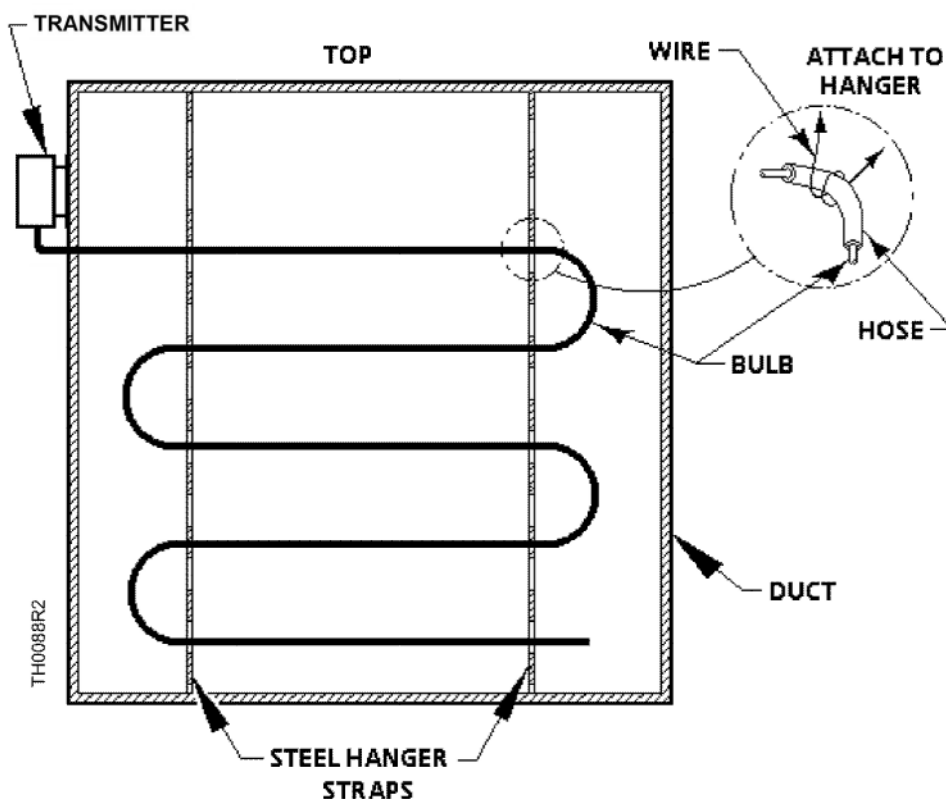

Figure 1. Typical Mounting in Walk-in Duct.
### Large walk-in Ducts (Figure 1)
6. Mount the bulb in a horizontal, serpentine manner, attaching the bulb to the strap as shown in detail in Figure 1.